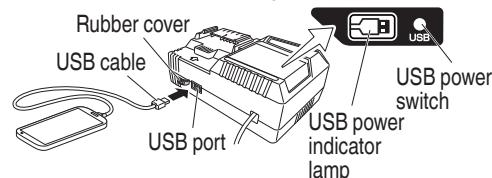

Fig. 8
(2) Turn the USB power switch ON (Fig. 8)
(3) Connect the USB cable. (Fig. 8)
- Turn the USB power switch OFF and unplug the power cord from the electrical outlet. (Fig. 8)